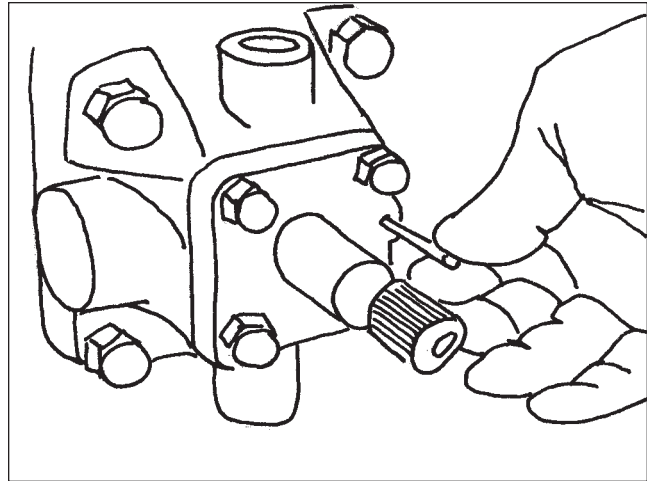

Figure 144
22. Further adjustments are required. Refer to the “Plunger Adjustment” section of the “Common Procedures” section in this manual (Figure 144).